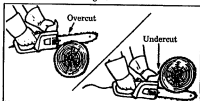

Figure 23
2. TYPES OF CUTTING USED (Figure 23)